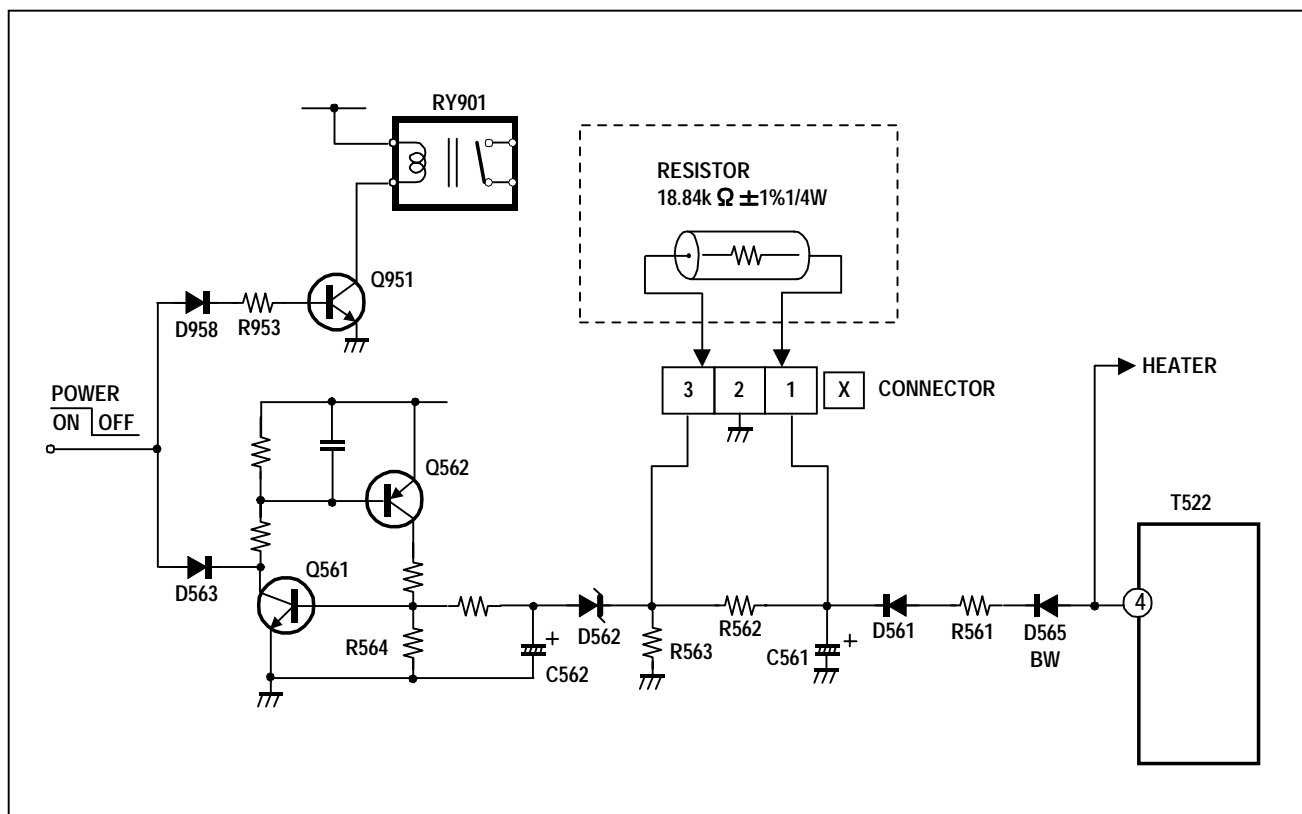

Fig. 1
After repairing the high voltage hold down circuit shown in Fig. 1.
- (1) Turn the POWER SW ON.
- (2) As shown in Fig. 1, set the resistor (between ☐ X connector ☐ 1 & ☐ 3).
- (3) Make sure that the screen picture disappears.
- (4) Temporarily unplug the power cord.
- (5) Remove the resistor (between ☐ X connector ☐ 1 & ☐ 3).
- (6) Again plug the power cord, make sure that the normal picture is displayed on the screen.